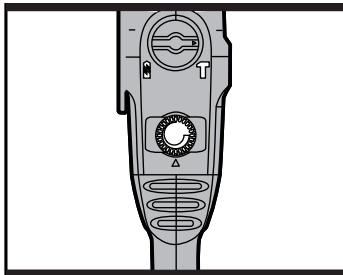

Fig 1.2
Adjust the wheel (4) to increase or decrease the speed according to the material and accessory to be used (also possible during no load operation (See Fig 1.2). This allows you to preset the maximum speed from your variable speed trigger. This reduces the risk of a drill/driver bit slipping and work-piece damage. Low speed will give low torque and high speed gives higher torque. The Constant Speed Control electronic circuit inside your drill maintains a nearly constant speed even when your drill is under load.